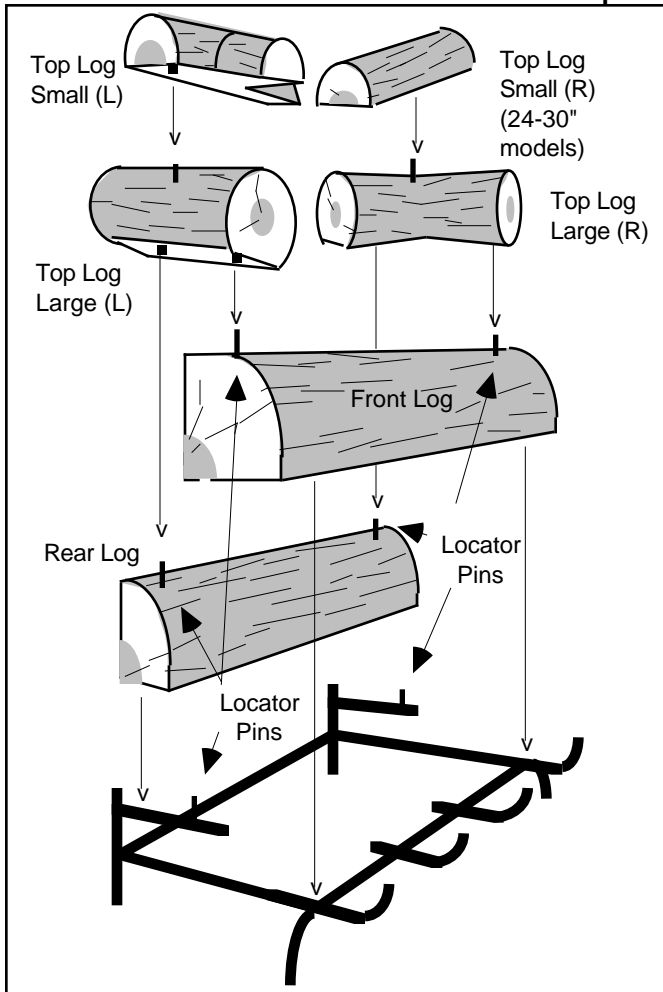

Figure 5
2. Place largest log (FRONT LOG) in the front of the grate and the second largest log (REAR LOG) on the rear of the grate behind the LOCATOR PINS. (Figures 5 and 6).
3. Place both Right and Left LARGE TOP LOGS across the FRONT and REAR logs with the LOCATOR PINS inserted into the drilled holes located on the bottom of both LARGE TOP LOGS. (Figures 5 and 6).
4. Place (R) and (L) SMALL TOP LOGS (24 and 30" models) across the FRONT LOG and LARGE TOP LOGS.